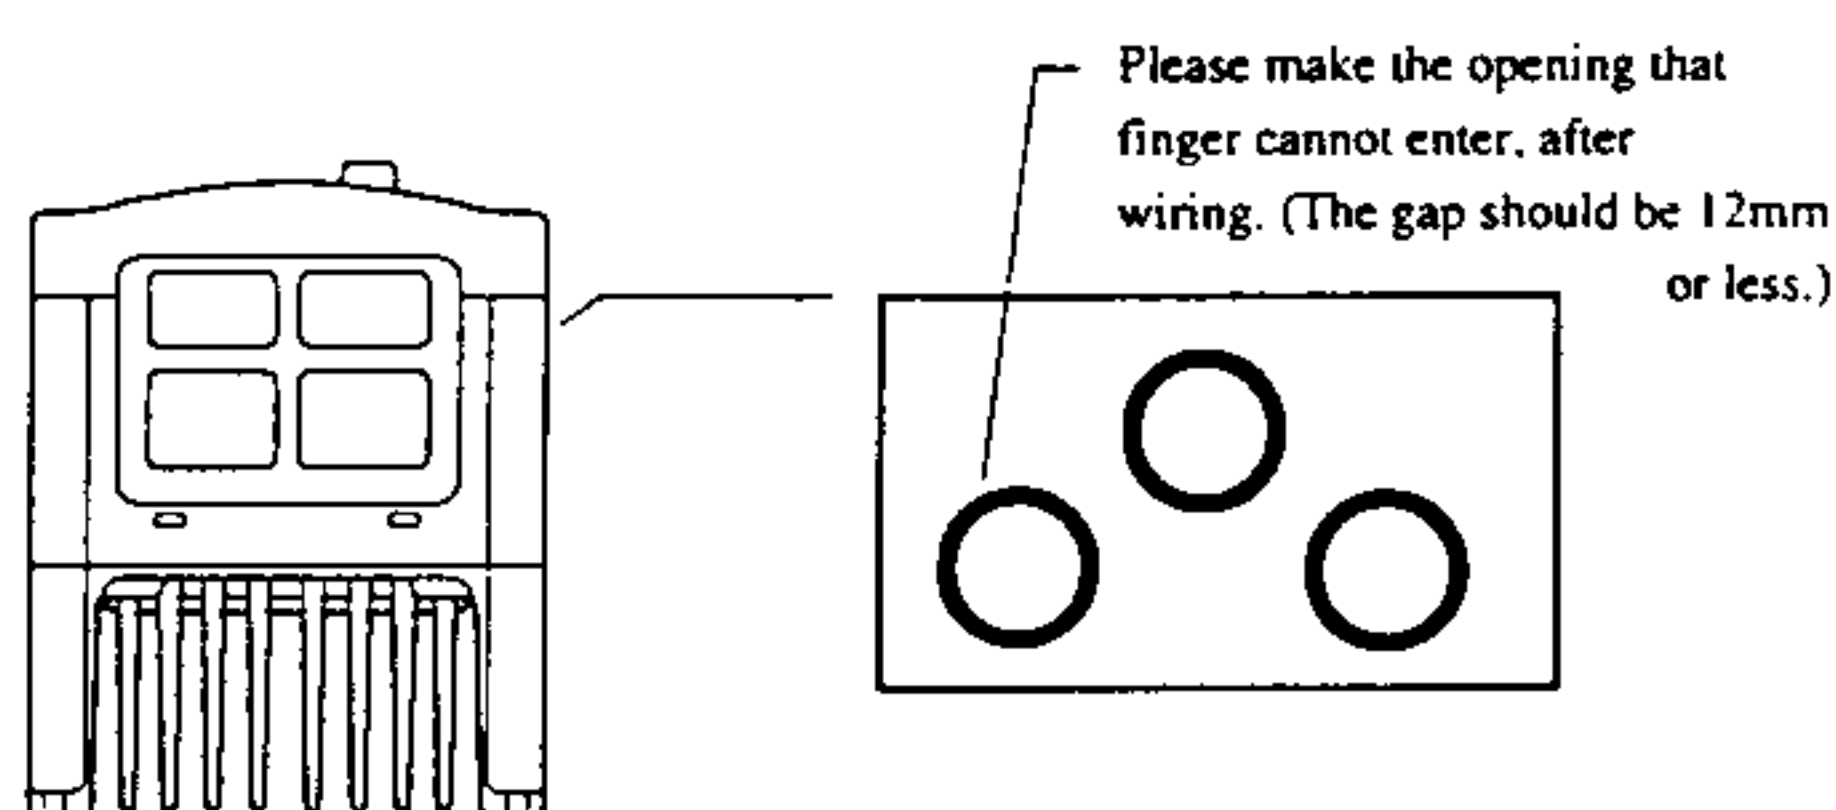

Figure 5 Wiring opening cover
- 1) When the inverter is installed outside a cubicle wiring openings should be covered, so that it should prevent someone from touching live parts through the openings in case of a maintenance. (Refer to Figure 5) As optional, wiring opening covers are available for VFS7S and VFS7 three phase 200V input 3.7kW or less. Others have wiring opening covers as standard.